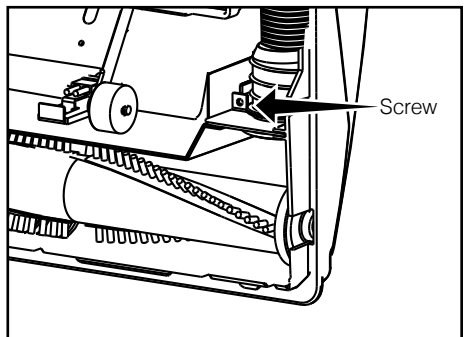

Fig. 3
- Turn the vacuum over and remove the bottom plate (See page 18). Remove one screw at the base of the nozzle hose (Fig. 3). Clear the hose of blockage and replace the screw. Reinstall the bottom plate.